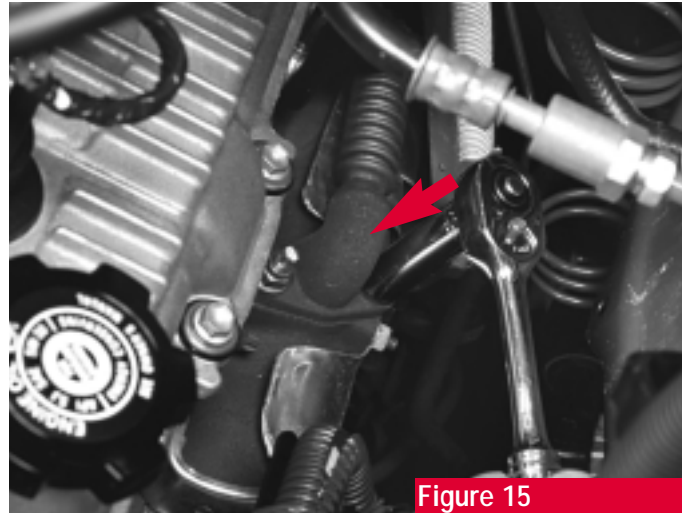

Figure 15
19. Your pre-2000 Tacoma or T-100 may be equipped with an EGR valve. To be sure, look for this tube (**see arrow, figure 15**) on the driver's-side exhaust manifold. Remove the valve according to the procedure on page 14.